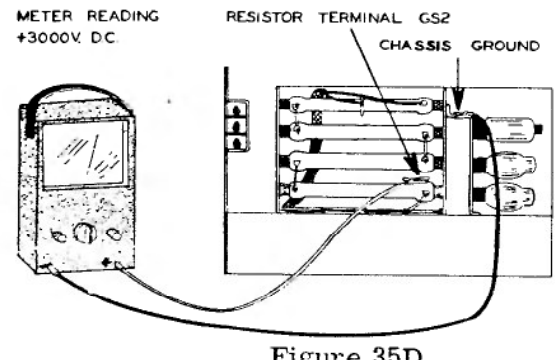

Figure 35D
- ( ) Check the plate voltage between resistor terminal GS2 and chassis ground. This reading should be at or near 3000 volts DC. See Figure 35D for this test setup.